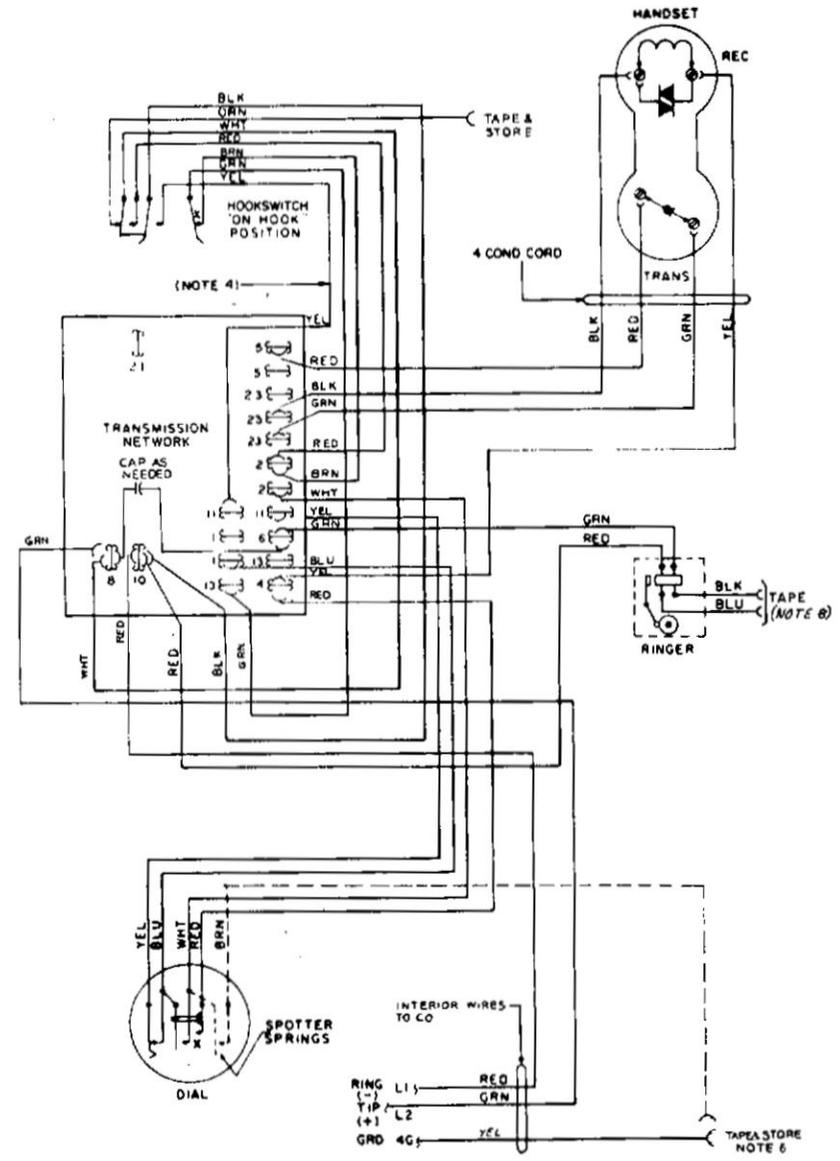

Figure 8. Schematic and Wiring Diagram for Self-Compensating Type 183 Telephone Equipped With HB-1055-A Transmission Network.
- (i) Connect the wires to the transmission network terminals (Figure 8, 9, or 10).